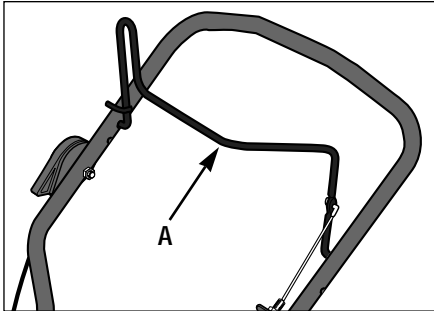

Figure 4-3: Control bail disengaged.
The Trimmer Head Control Bail (A, Figure 4-3) is used to start and stop trimmer head motion.
1. Leave the control bail in the disengaged (released) position when starting the engine to prevent the trimmer head from turning when the engine starts. See Figure 4-3.
4. Release the Trimmer Head Control Bail (A, Figure 4-3).